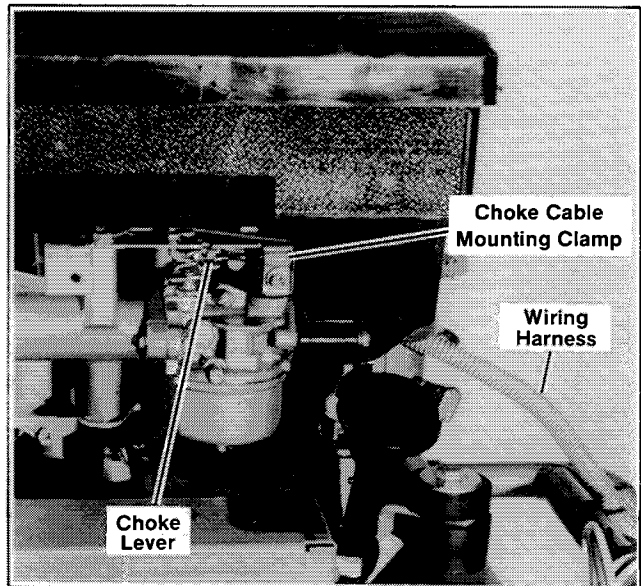

Figure 7-2. Start Panel Connections
1. With remote panel mounted in coach, loosen screw on mounting clamp and slide cable under clamp. See Figure 7-2.